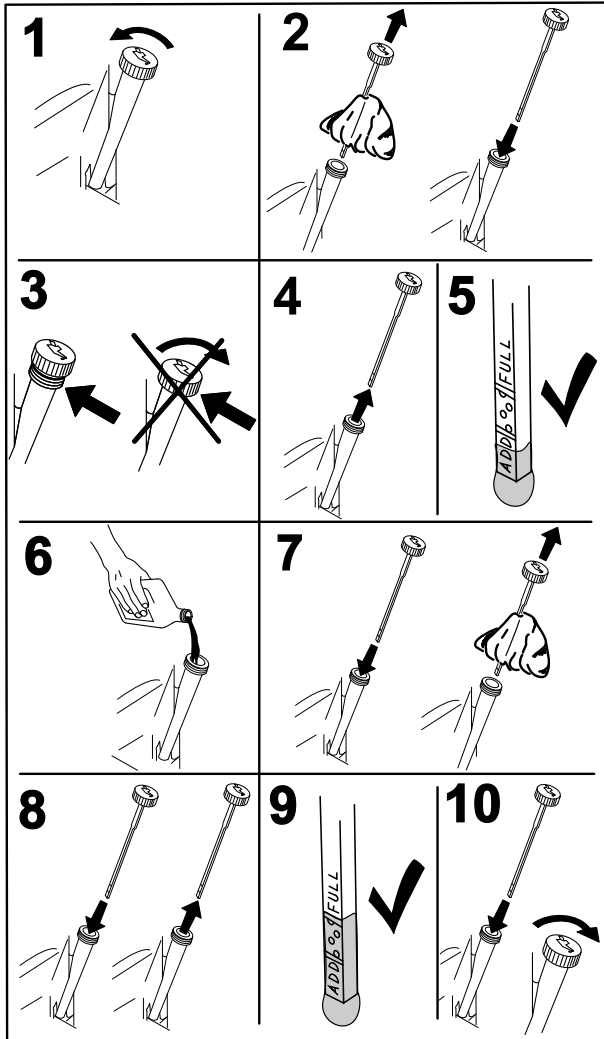

Figure 33
4. Stop the engine, remove the key, and wait for all moving parts to stop before leaving the operating position (Figure 33).